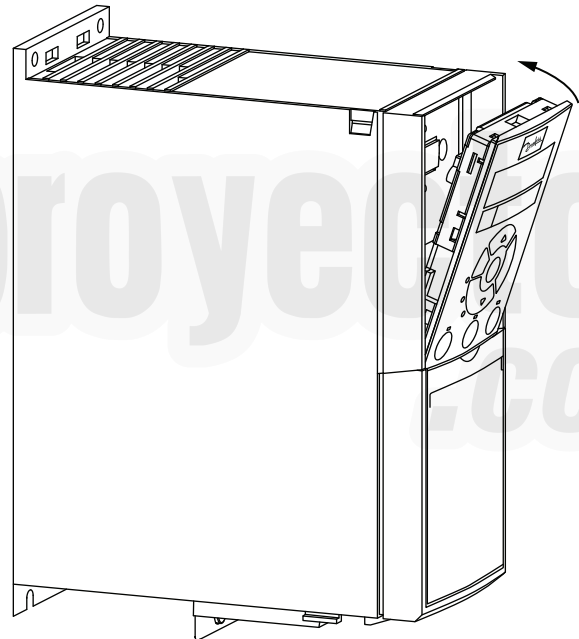

Fig. 55 — Secure Keypad in Place
2. Push the top of the VFD keypad into the variable frequency drive as shown in Fig. 55.